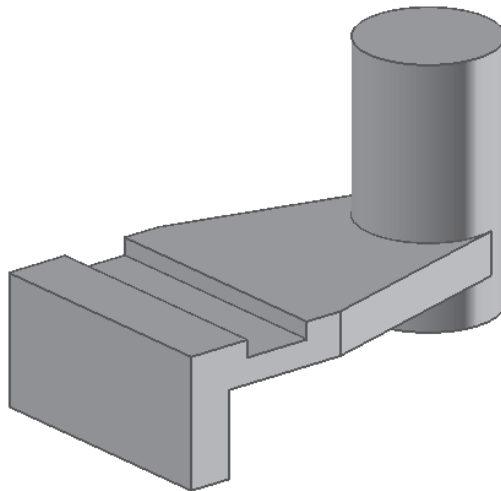

Figure 4-82 Model after creating the cylindrical feature
- d. Draw the sketch of the fourth feature on the offset plane and extrude it using the **Unite** operation, refer to Figures 4-82.
8. Change the current view to the isometric view and hide the sketch. The model after creating the cylindrical feature is shown in Figure 4-82.